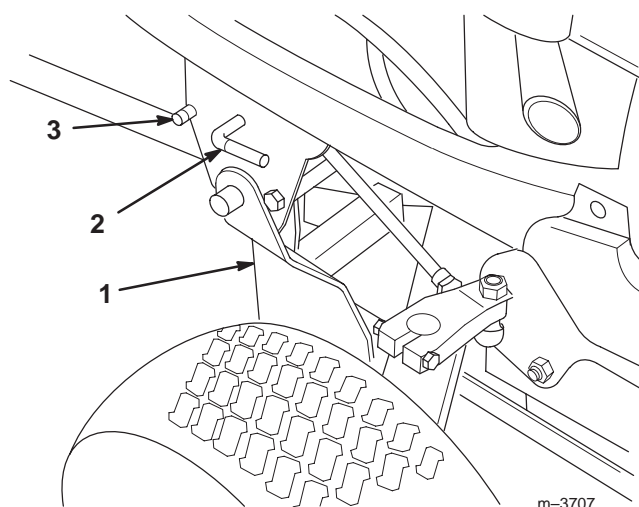

Figure 31
- Press the button of the mid Attach-A-Matic™ hitch and carefully turn the lever clockwise to release the snowthrower (Fig. 31). Please use **CAUTION** during this step! **The snowthrower frame will drop to the ground.**